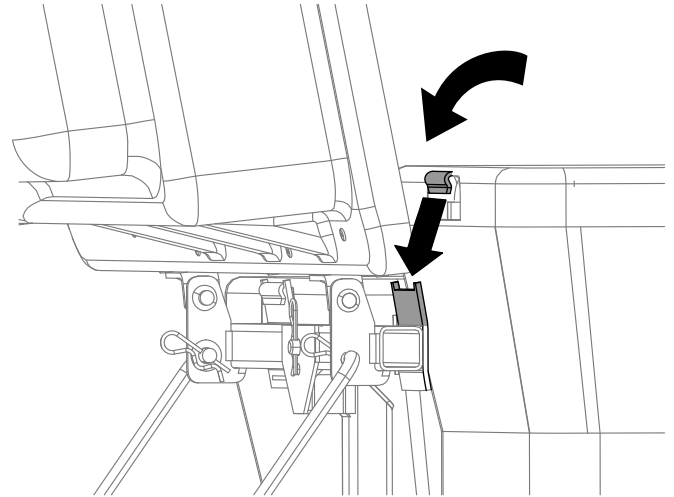

**Figure 20**
2. Slide the brackets over the posts in the bagger frame and install the circular cotter pin into the hole in the right hand post (Figure 20).